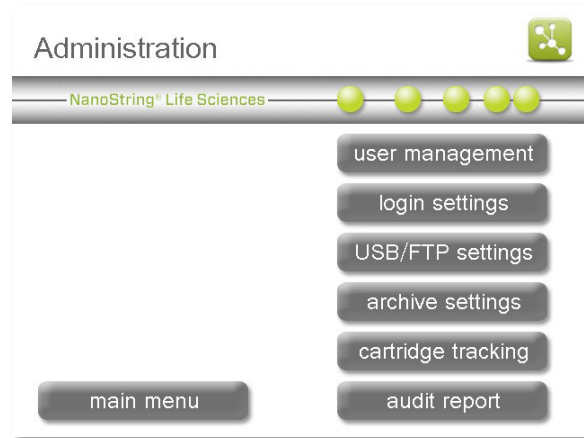

Figure 40: The Administration Menu.
The Administration Menu will appear (**Figure 40**).
- **role:** Users can be identified as "General" or "Administrator." Administrators have access to the Administration Menu (Figure 40) and can create other user profiles.